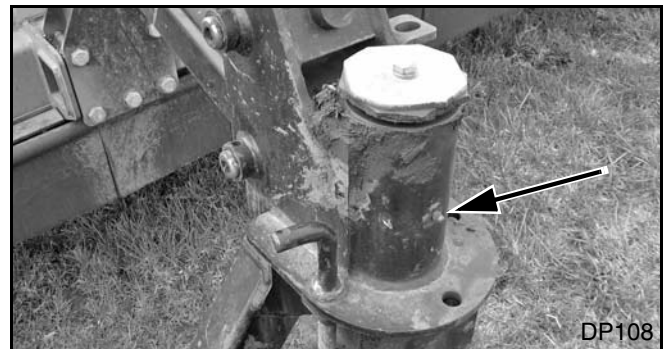

Figure 28. Wheel Caster Bearing Lubrication Points
4. Lubricate caster pivot bearings as shown in Figure 28.